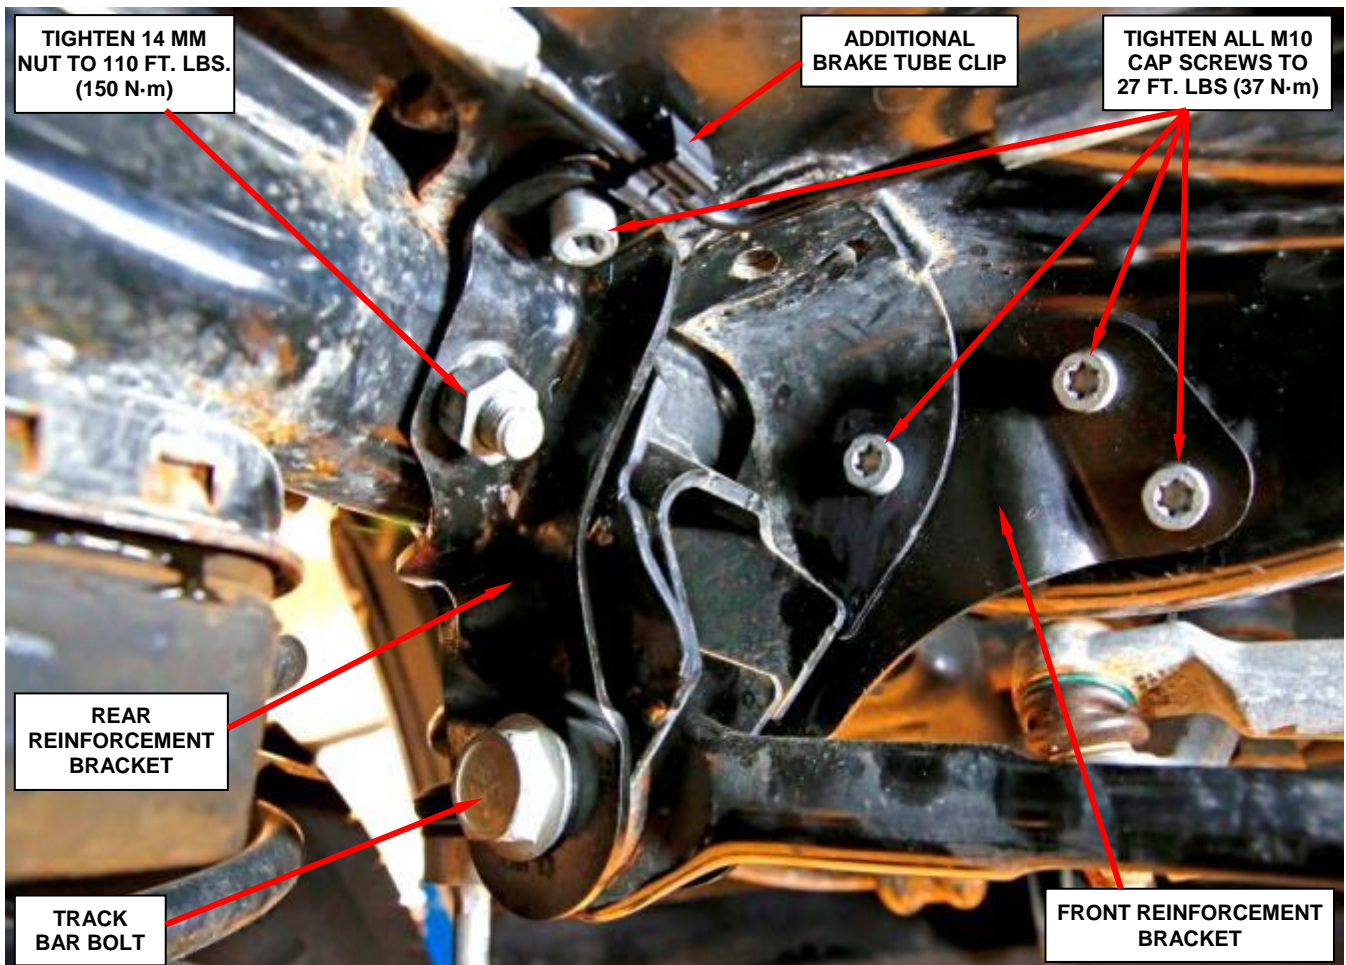

Figure 30 – Correctly Installed Reinforcement Brackets
64. Tighten the 14 mm nut on the rear reinforcement bracket to 110 ft. lbs. (150 N·m) (Figure 30).
65. Tighten all of the remaining reinforcement bracket M10 cap screws to 27 ft. lbs. (37 N·m) (Figure 30).